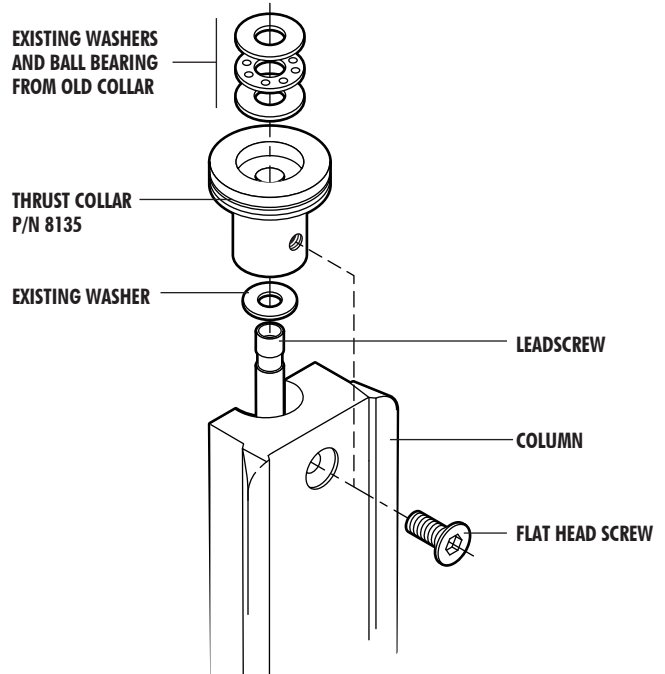

FIGURE 85—Order of washers and bearing in Z-axis thrust collar on mill, or optional vertical milling column.
- MILL and VERTICAL MILLING COLUMN:** Using a 1/8" hex wrench, remove the flat head screw that holds the Z-axis thrust collar to the vertical milling column. Remove the collar by lifting it up and off the lead screw. If the spacer washer sticks to the bottom of it, remove it and reinstall it on the lead screw shaft. Then remove the ball bearing thrust and two washers from the collar and reinstall them in the new Z-axis thrust collar in the same order (see Figure 85). Install the new collar on the lead screw shaft and secure it to the bed with the flat head screw.